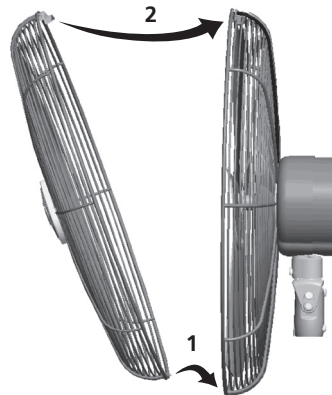

FIGURE 11
24. With the Hunter logo facing forward and upright, engage the tabs on the lower part of the Front Grille into the rim of the Back Grille, as shown in Figure 11, arrow 1. Then, move the top of the Front Grille as shown in Figure 11, arrow 2, so that the tab at the top of the Front Grille snaps under the rim of the Back Grille.